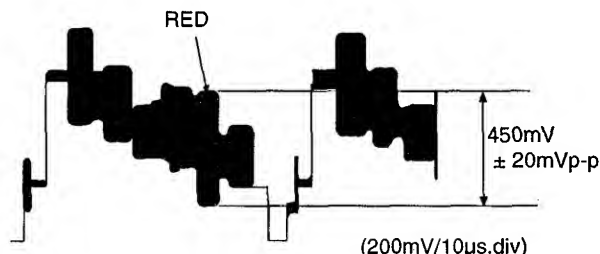

Fig. 3-21
## (5) Chroma Gain Adjustment (Figs. 3-21, 3-22)
(Fig. 3-21)